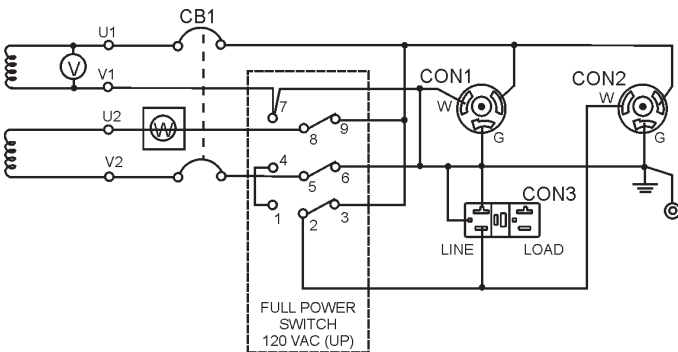

Figure 2C. Full Power Switch 120VAC (Up) Simplified Wiring Diagram
11. **Full Power Switch** – The generators are provided with a full power switch. Figures 2C and 2D show simplified wiring diagrams of the dual voltage system.